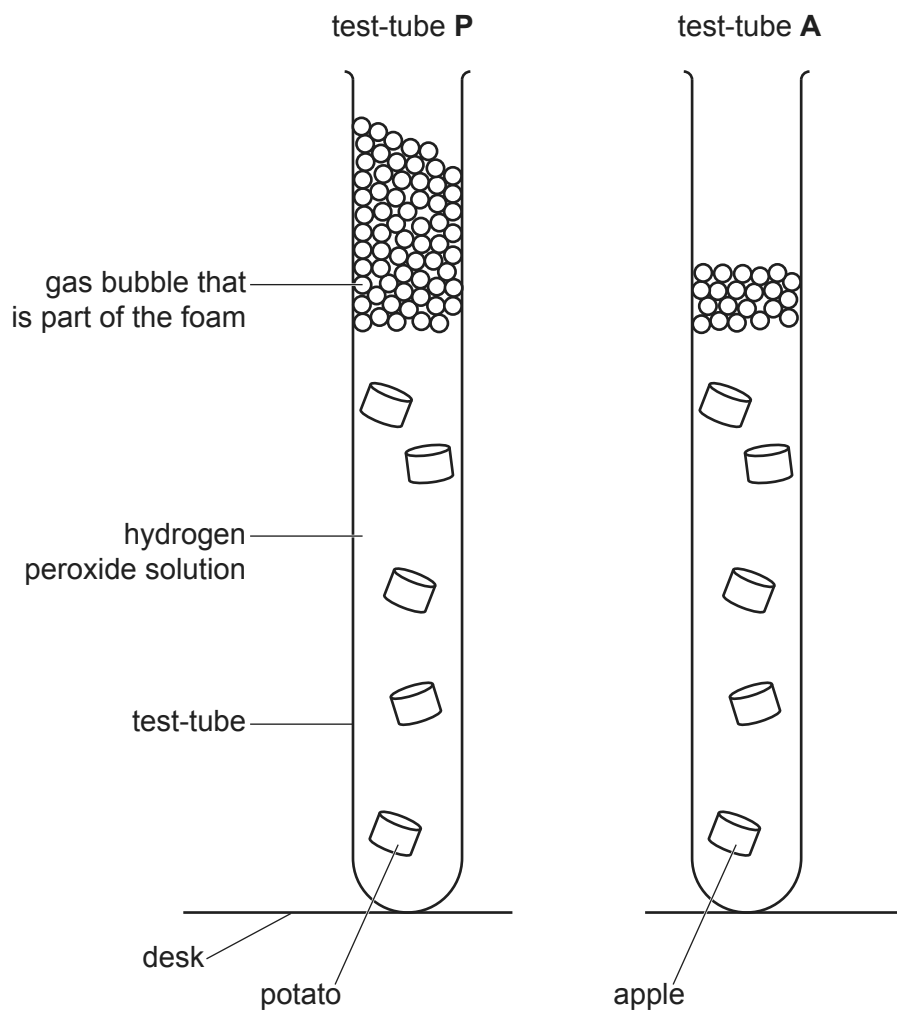

Fig. 1.2
Fig. 1.2 shows a diagram of test-tube **P** and test-tube **A** in step 8 and step 9.
- (a) (i) Measure the maximum heights of the foam in test-tube **P** and test-tube **A** in Fig. 1.2.